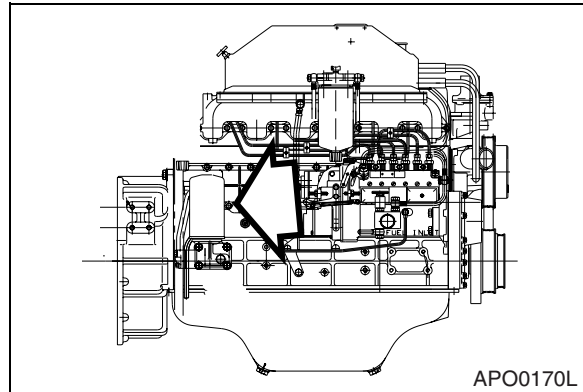

Figure 71
4. Remove coolant drain plug (Figure 71) from engine.